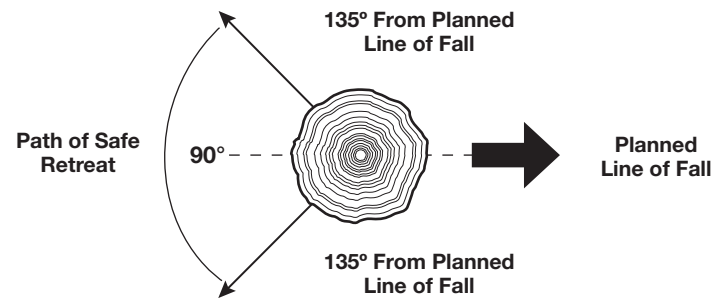

Fig. 22
- Determine a safe and expedient escape route. Clear the area around the tree and make sure there are no obstructions blocking the escape route. Establish a 90° corridor of escape, approximately 135° from the line of fall (Fig. 22).